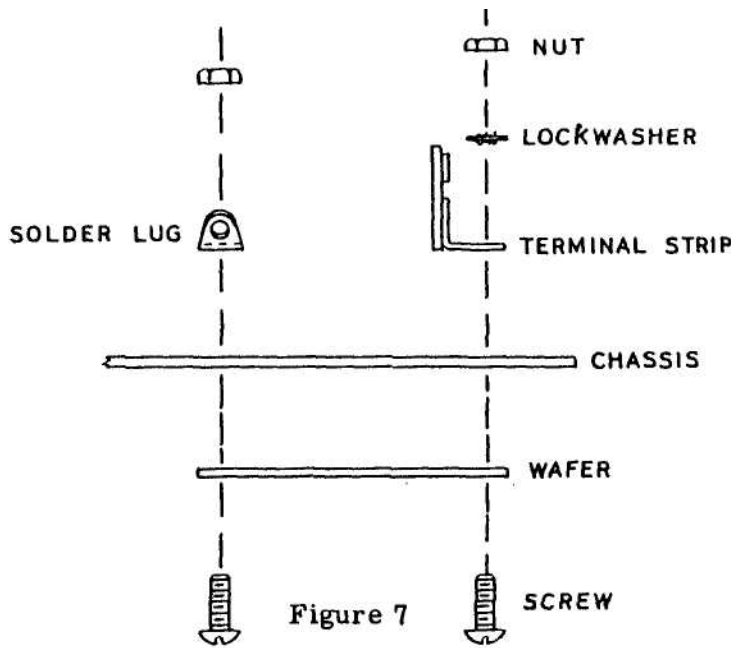

Figure 7
- () Mount the filter capacitor mounting wafer at H as shown in Figure 7, placing it on top of the chassis, using 6-32 x 3/8 screws and nuts. Use #6 solder lug on the inside screw, orienting as shown in Pictorial 1. Mount 1-lug terminal strip T on the other screw, using a #6 lock-washer and nut.